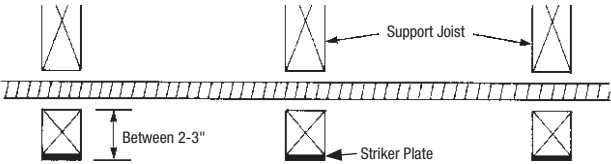
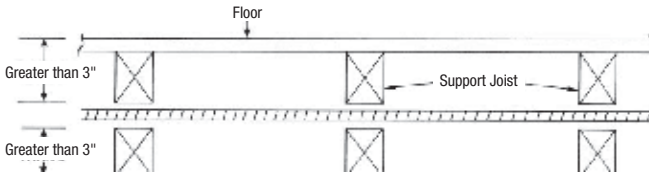

Figure 4.11 Shielding at Support Area When Penetration is 2-3 inches from Edge
Figure 4.13 Penetration Point Greater than 3" from Edge of Stud, Joist, Plate, etc.
- 2. At support points and points of possible penetration 2-3 inches from any edge of stud, joist plate, or other member, shielding is required throughout the area of support. (Figure 4.11)
- Support tubing such that it is more than 3 inches away from any outside edge of a stud, joist, plate, etc., or wall surface. (See Figure 4.13 compared to Figure 4.11)